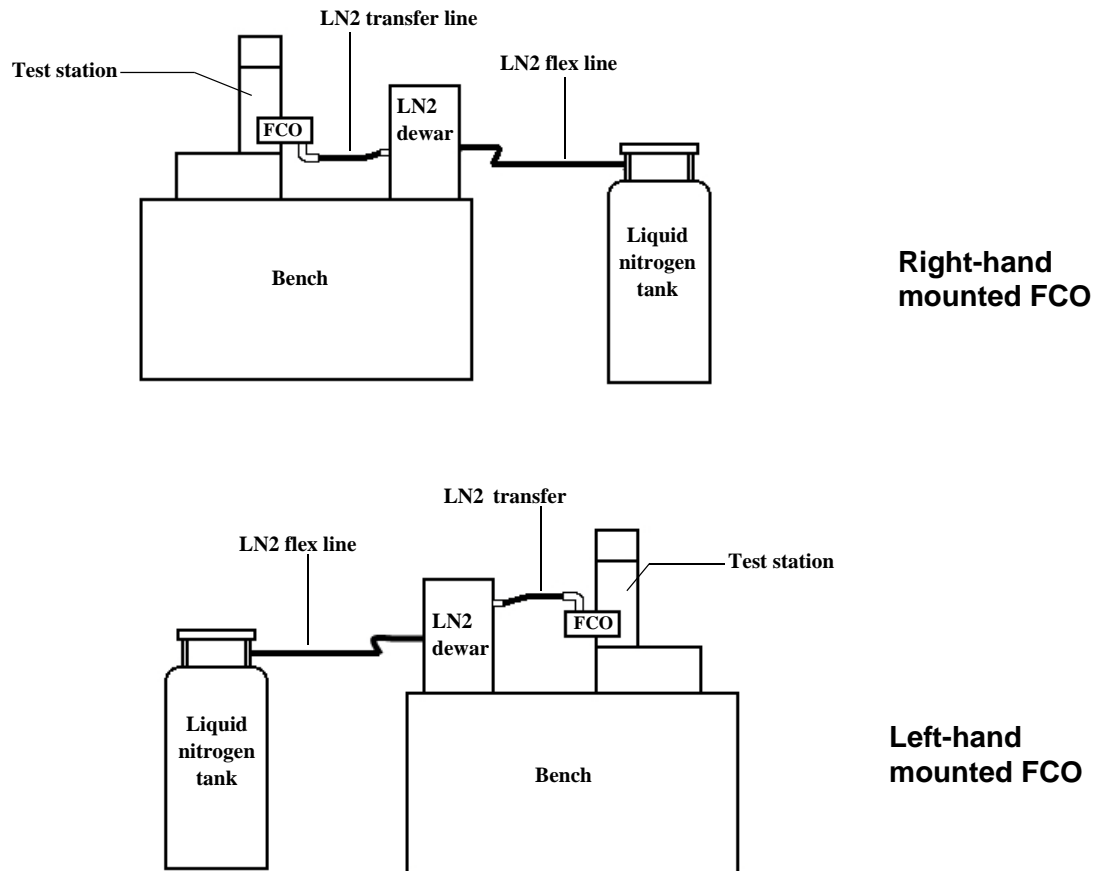

Figure 8 LN2 Cooler configuration with left-hand and right-hand mounted FCO.
- 3 Connect the **elbowed end** of the LN2 transfer line (the hose with the larger diameter) to the FCO LN2 supply connection. Refer to Figure 8 for left-hand and right-hand mounted FCO configurations.